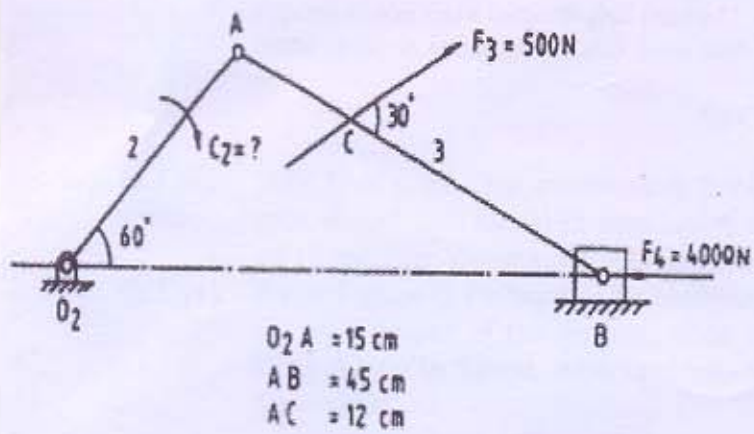

Figure. 1
- Q.2 (a) Refer Figure.1. Determine by analytical method, the couple on crank 2 to be applied for equilibrium of the system, when a force of 500N acts on connecting rod at point C as shown in figure. Also determine the resultant of forces exerted on the frame of the engine. 12